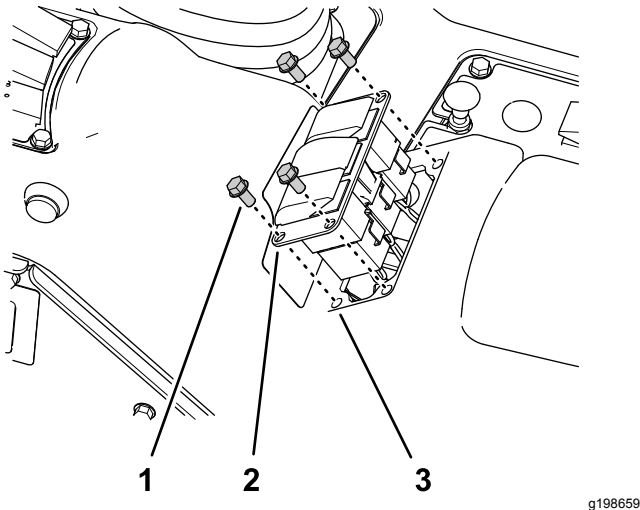

Figure 33
1. Remove the 4 flange head screws (1/4 x 1/2 inch) that secure the 3-switch panel to the control console (Figure 33).
3. Disconnect the 8-socket connector of the machine wire harness (labeled **Rate Switch**) from the 8-pin connector of the switch (Figure 33).
6. Align the switch plug to the opening in the 3-switch panel where you removed the rate switch (Figure 33).
7. Insert the switch plug into the 3-switch panel until the plug snaps into the panel securely (Figure 33).